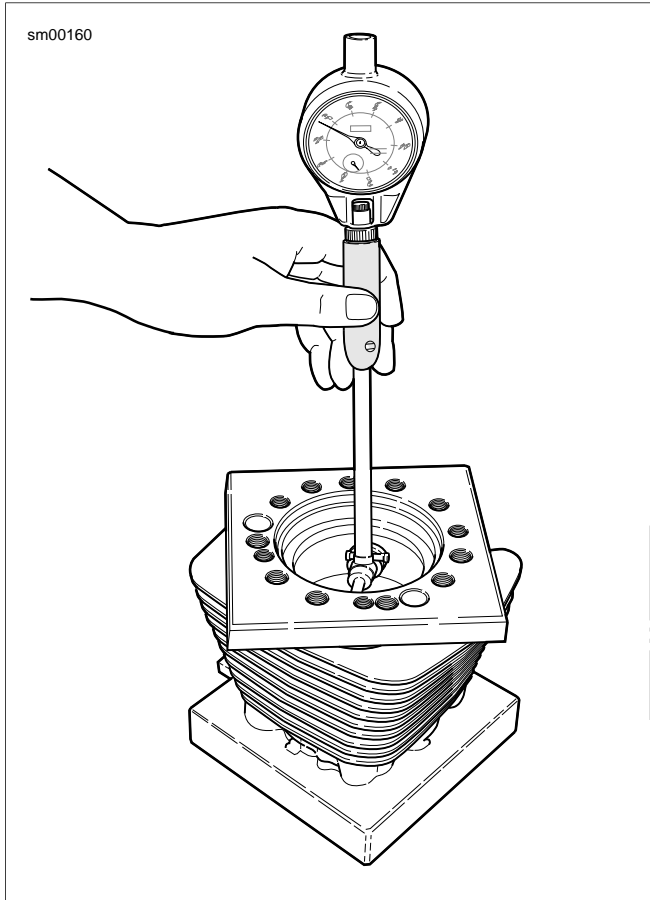

Figure 3-75. Measuring Cylinder Bore Using Torque Plates (Part No. HD-33446B)
2. See Figure 3-75. Install a head gasket, base gasket, and CYLINDER TORQUEPLATES (Part No. HD-33446B) and XL EVOLUTION TORQUE PLATE BOLTS (Part No. HD-33446-86). Tighten the bolts using the same method used when installing the cylinder head screws. See 3.2 SPECIFICATIONS.
3. See Figure 3-75. Take cylinder bore measurement in ring path, starting about 0.50 in. (12.7 mm) from top of cylinder, measuring from front to rear and then side to side. Record readings.